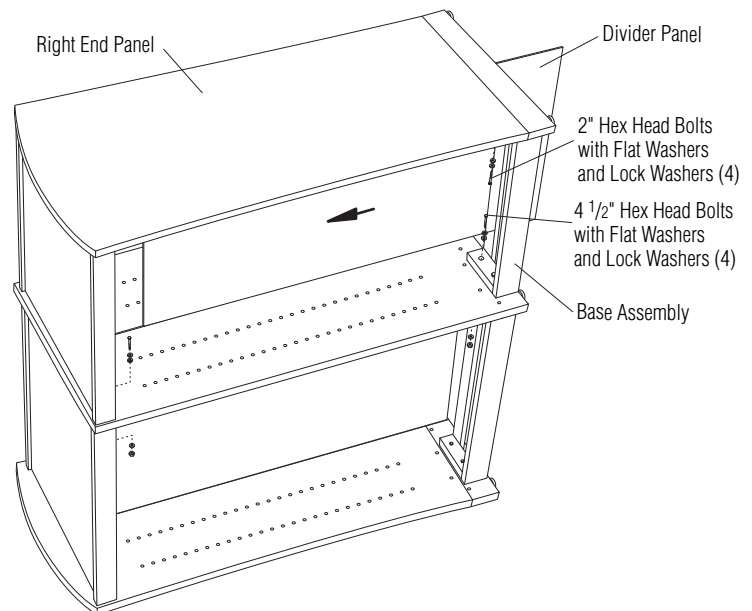

Figure 6
- Insert four 4 1/2" hex head bolts with a lock washer and a flat washer from the inside of the top assembly through the adder panel and previously installed top assembly (Figure 6). Tighten.
- Position the base assemblies for the adder unit by aligning the holes with the holes in the adder panel. Insert four 4 1/2" hex head bolts with a lock washer and a flat washer from the inside of the base assemblies through the adder panel and previously installed base assemblies (Figure 6). Tighten.